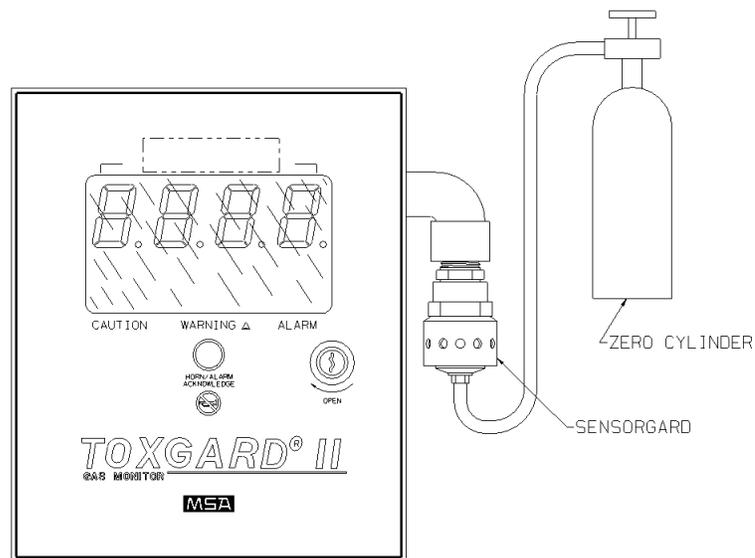

Fig. 26 Zero Gas Connection
- e) Connect the other end of the tubing over the SensorGard inlet (Fig. 26 "Zero Gas Connection").